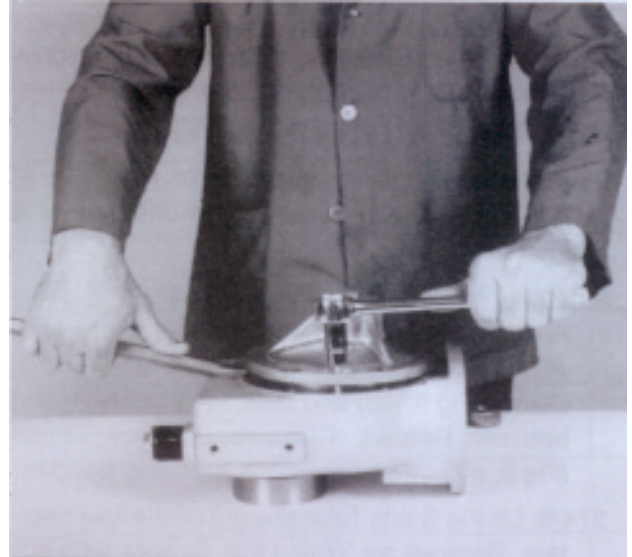

FIGURE 4
1. Slip a retaining ring pliers through the slot opening in the Crank Gear (#6) and remove the Retaining Ring (#9). See Figure 4.